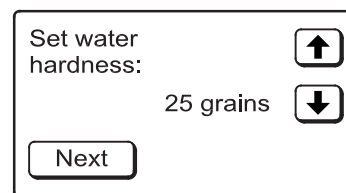

FIG. 18
3. WATER HARDNESS: Press the UP (↑) or DOWN (↓) buttons to set the value of your water's hardness (See Figure 18), then press the NEXT button.